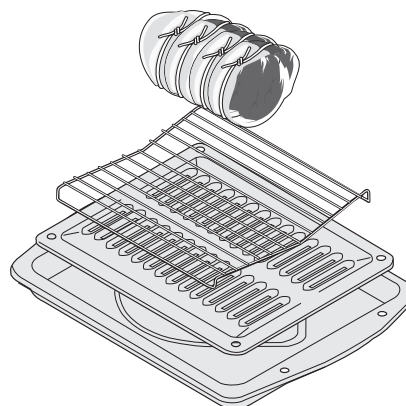

Figure 35: Meat, insert placement
4. Place meat (fat side up) on insert (Figure 35). Place prepared food on oven rack and slide into oven.
- Use the broiler pan and insert, as well as the roasting rack (Figure 35) (some models). The broiler pan will catch grease spills, and the insert will help prevent splatters. The roasting rack will hold the meat.